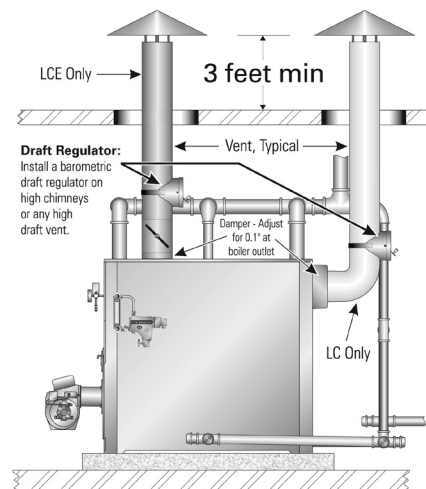

Figure 1.3: Vent Termination, Typical
2. The vent system and installation must be in accordance with the current edition of the American National Standard ANSI/NFPA 211, "Chimneys, Fireplaces, Vents, and Solid Fuel Burning Appliances", or applicable provisions of the local building codes. The venting requirements for the LCE are the same as for the LC. Figure 1.3 shows the top flue outlet required on LCE boilers.
7. The vent diameter and minimum height for stub vents are listed in the Ratings and Dimensions Section of this manual. Always extend vent terminations at least 3 feet above the roof line. See Figure 1.3.